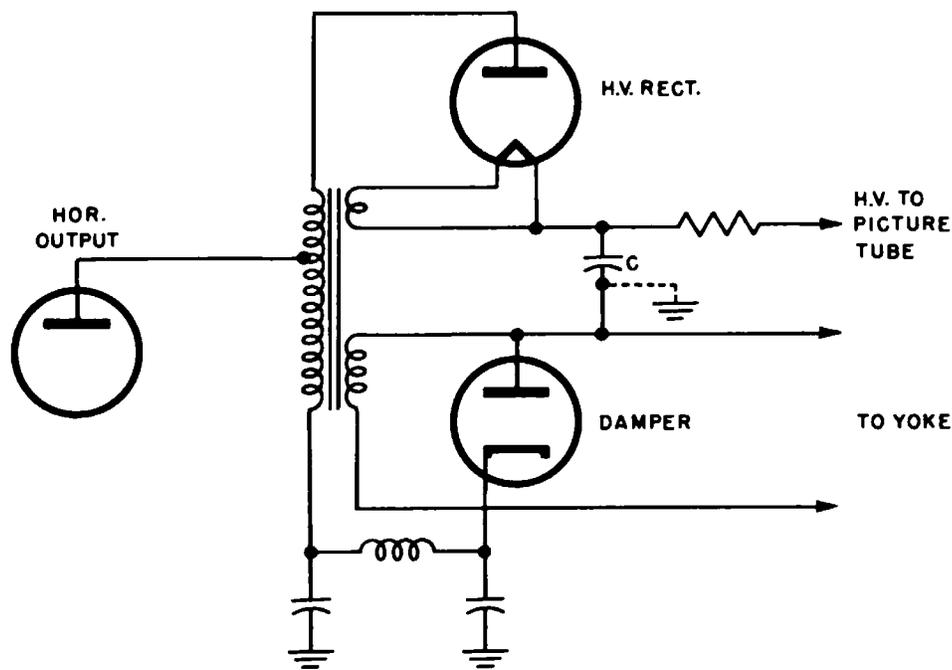

Fig. 3-28. Reconnecting the high-voltage filter capacitor to increase the high voltage.
**QUES. 3-28.** On occasion, it is recommended that the low potential side of the high-voltage filter capacitor be disconnected from ground and reconnected to the plate of the damper (Fig. 3-28), to increase the high voltage and therefore the brightness of the picture. What precaution should be observed when making this change?
**ANS.** When reconnecting the high-voltage filter capacitor to the damper plate (Fig. 3-28), observe the left side of the picture to note whether horizontal foldover has been introduced by the new circuit connection. In some cases, the foldover caused in this manner may be eliminated by adjusting the drive and width controls. If the